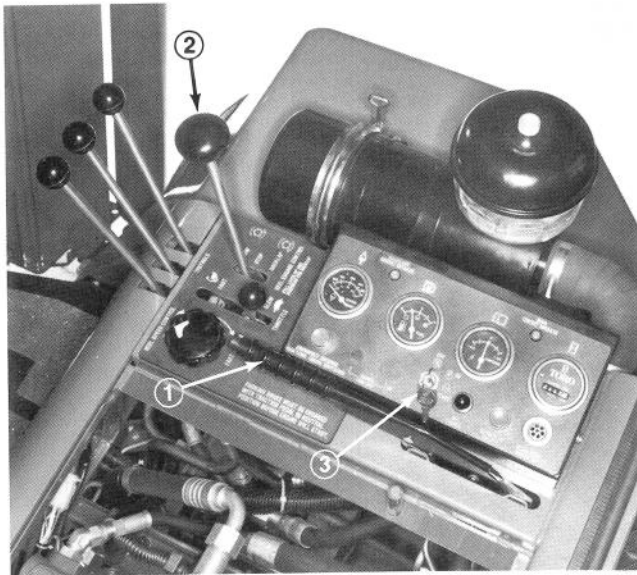

Figure 15
2. Sit on the seat and engage parking brake (Fig. 15). Turn key and try to start engine with Mow-Backlap lever (Fig. 15) in both the MOW and BACKLAP positions. If engine cranks, there is a malfunction that must be repaired immediately. If engine does not crank, the cutter drive switch is operating properly.
3. Sit on the seat and disengage the parking brake (Fig. 15). Turn key and try to start engine with Mow-Backlap lever (Fig. 15) in STOP. If engine cranks, there is a malfunction that must be repaired immediately. If engine does not crank, brake switch is operating properly.
4. Engage parking brake (Fig. 15), start engine and lower cutting units. Move Mow-Backlap lever (Fig. 15) to MOW. Raise off the seat; engine should stop within a few seconds, which indicates the interlock system is operating. Also raise off the seat with lever in BACKLAP. Engine should stop, indicating interlock system is operating. If engine does not stop, there is a malfunction that must be repaired immediately.